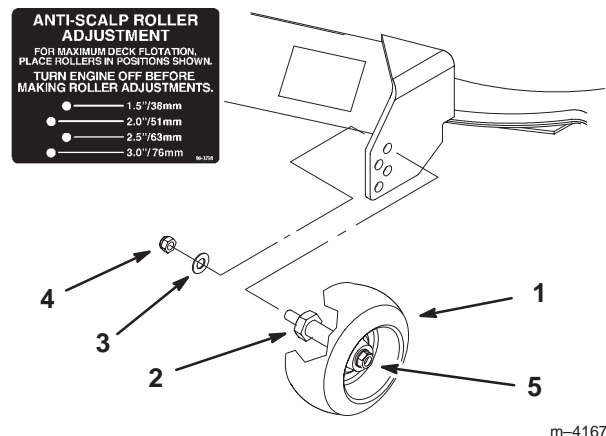

Figure 19
3. After adjusting the height-of-cut, remove the nut and washer while holding the stud with a wrench (Fig. 19).
Note: Do not remove the wheel nut and washer (Fig. 19).
4. Select a hole so that the gage wheel is positioned to the nearest corresponding height-of-cut desired (Fig. 19).
5. Reinstall the stud nut and washer (Fig. 19).